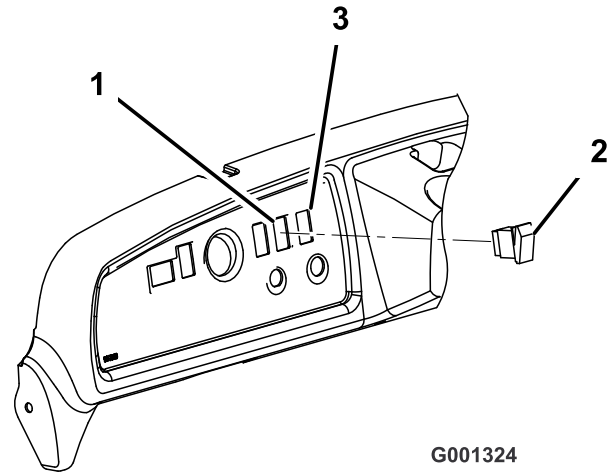

Figure 9
- Remove the plug from the hole in the right side of the dash (Figure 9).
- Plug the switch into the accessory connector in the dash. Insert the switch into the hole in the dash (Figure 9).
- Plug the switch into the harness connector in the dash. Insert the switch into the hole in the dash (Figure 9).